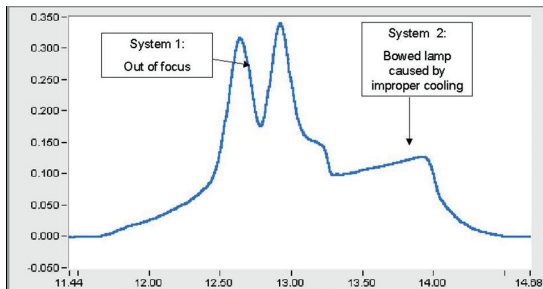

Figure 10.
6. **Identify and address maintenance needs:** Figure 10 shows two lamps that have changed significantly since they were first installed. Profilers paint a picture to help address maintenance issues – hopefully, *before* they impact product quality.